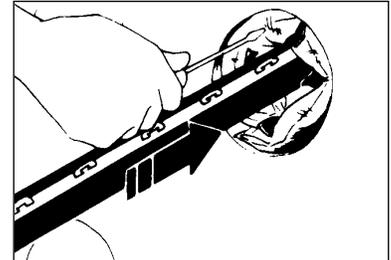

Figure 20
1. Deflate the TDUX duct seal by piercing with a screwdriver. **Note: Be careful not to damage the cable.** (Figure 20)